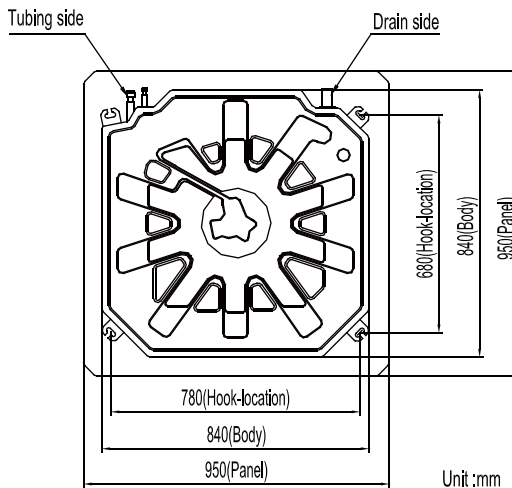
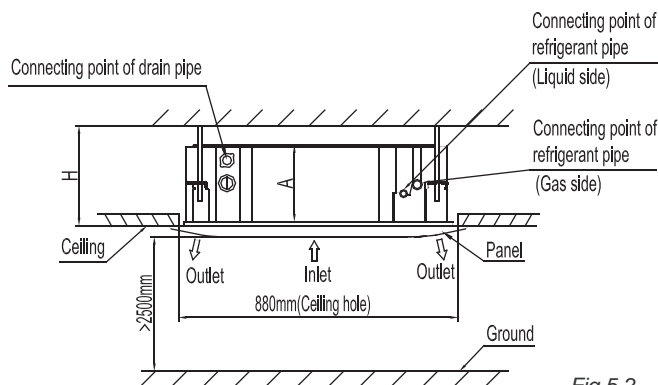
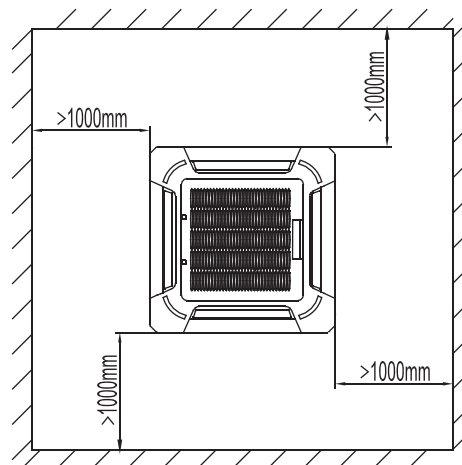

Fig.5-1
Fig.5-2
Fig.5-3
(Refer to Fig.5-1, Fig.5-2, Fig.5-3 and Table 5-1 for specification.)
- 1 Cut a quadrangular hole of 880x880mm in the ceiling according to the shape of the installation paper board. (Refer to Fig.5-2)